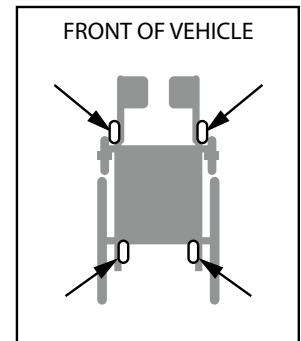

Figure 4. Tie Down Location
**Note: See Figure 4 for the location of the four (4) Motion Composites installed WTORS securement points.**